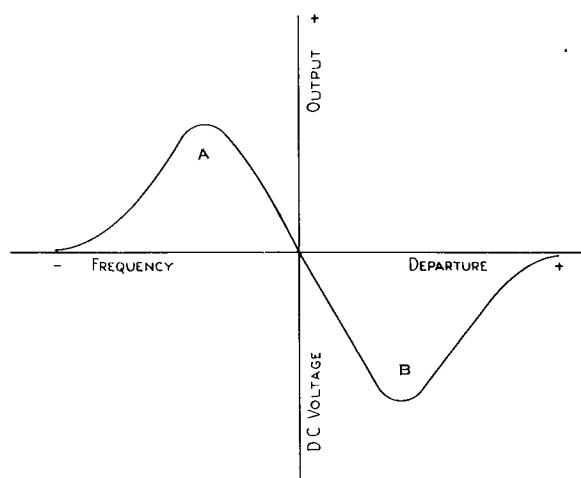

Fig. 10. Ideal response of discriminator.
9. The ideal response of a discriminator which has been properly aligned is illustrated in Fig. 10. The calibrator is used to check the points on the curve at which the various sweep frequencies appear. The sound i-f point should appear at the intersection of the response curve and the zero reference line. Tune primary and secondary of the Discriminator Transformer for maximum linearity between points A and B, Fig. 10, and symmetry about the zero reference line.